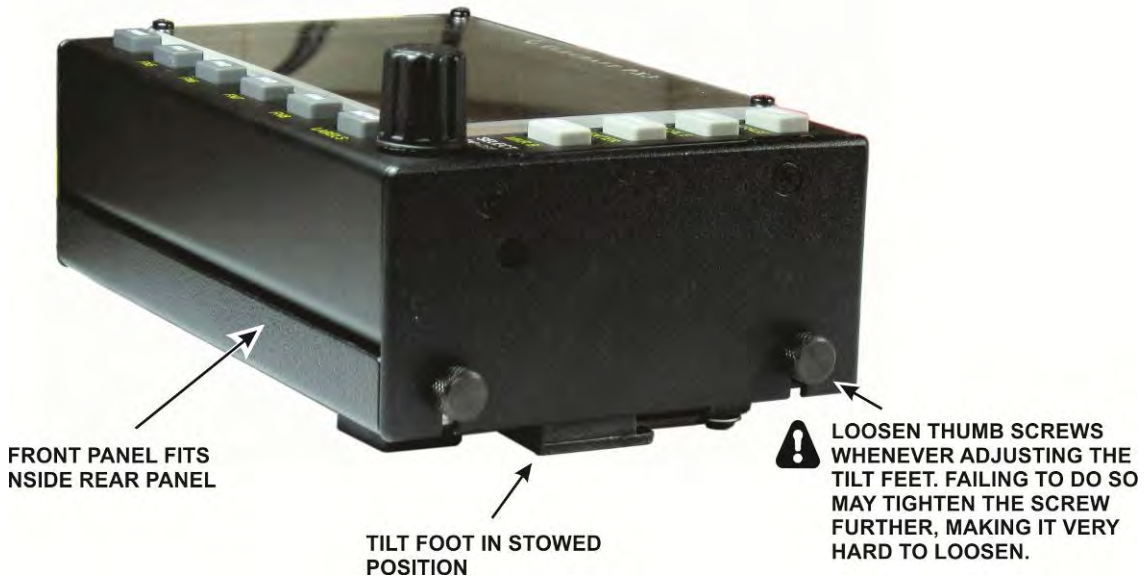

Figure 43. Assembling the Enclosure.
□ Assemble the front and rear covers as shown in Figure 43 and tighten the thumb screws only until snug. To use the tilt feet, loosen the two rear thumb screws and swing the feet down, then retighten the thumb screws.